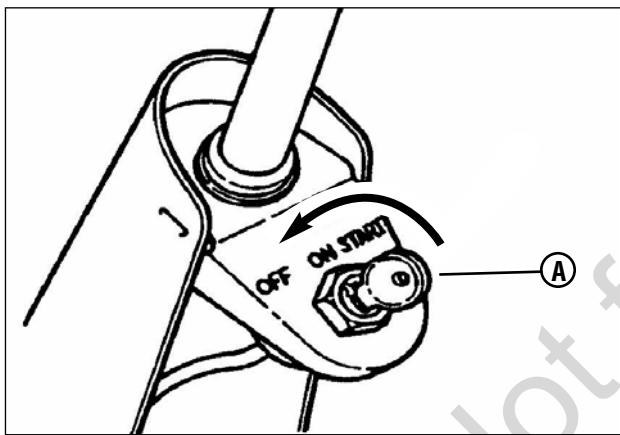

Figure 13: Turning key to 'Off'
1. Stop the engine by turning the key (A, **Figure 13**) to the "OFF" position.